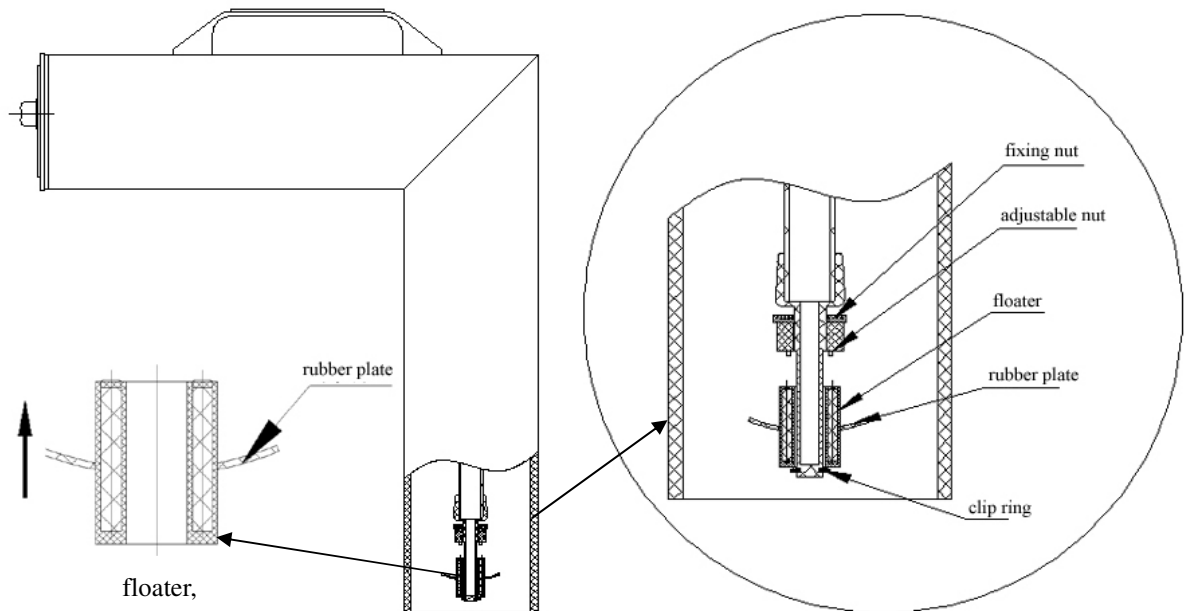

FIGURE 3-1
- A. (See Figure 3-1) Refer to the above mentioned drawing to note each part of the sensitivity adjuster.